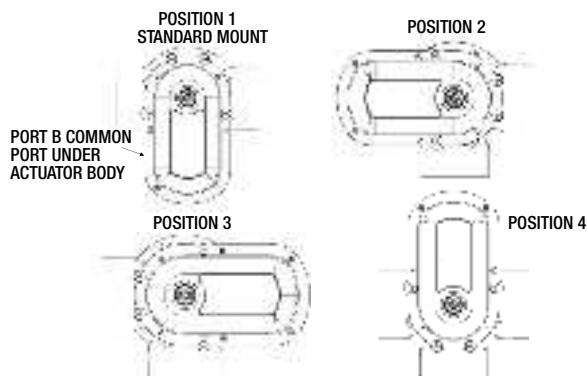

Figure 3.
5. Rotate the actuator until the actuator posts line up with the four holes so it matches one of the mounting positions shown in Figure 3.
Standard Actuator Mounting - The main body of the actuator is over port B as shown in position 1 of Figure 3.
The actuator can also be mounted on top of a valve in four different positions as shown in Figure 3. Depending on the plumbing of the valve and mounting position of the actuator, the cams inside the actuator may have to be reset. (See next section.)
NOTE: Factory settings: If mounted in POSITION 1 (STANDARD MOUNT in FIG 3) the cams will stop the valve blocking PORT A in one direction and PORT C in the other direction. Please be sure to adjust the cams to match your setup.